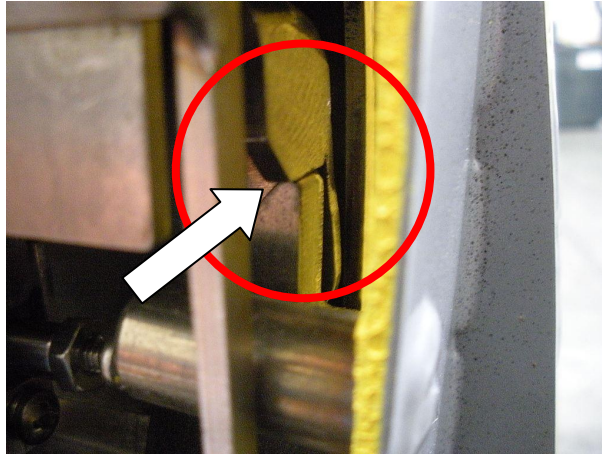

FIGURE 4-23: ROLLSTOP CATCH ON TOP OF ROLLSTOP ENGAGEMENT HOOK
- 20) Refer to **Figure 4-23**. Place Rollstop Catch on top of Rollstop engagement hook and hold Rollstop in this position.